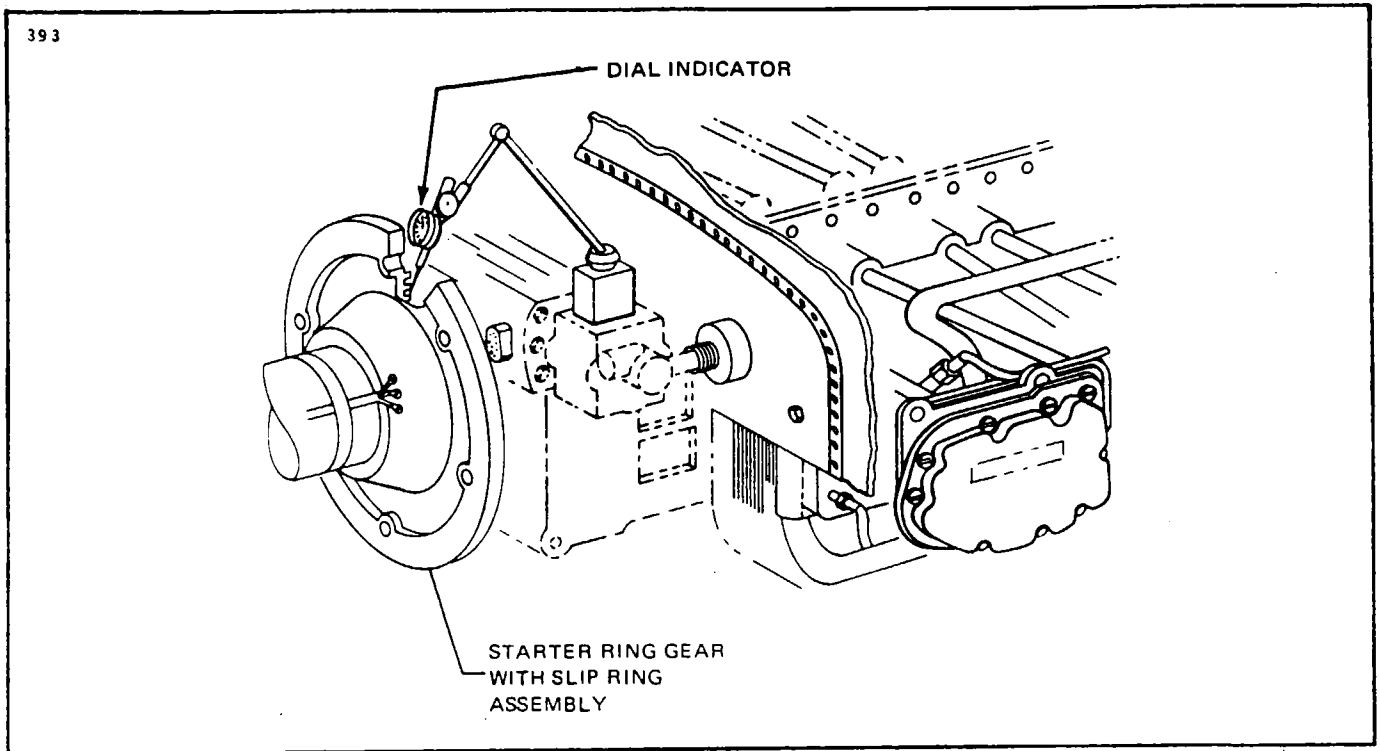

Figure 14-11. Typical Use of Dial Indicator
2. If uneven wear is found or if wobble is noticed, set up dial indicator as shown in Figure 14-11 to check alignment of slip rings to propeller shaft.